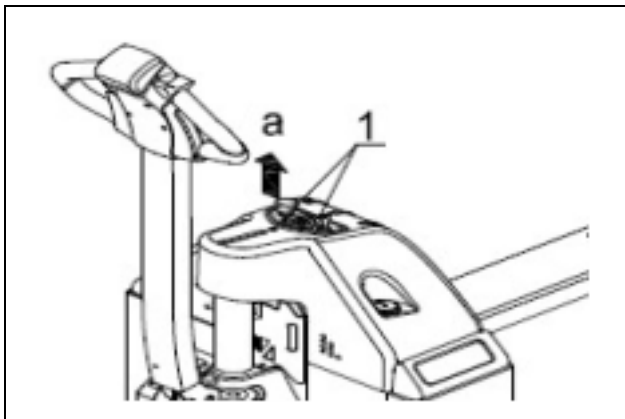

Figure 3-2 Cover Removal
- a. Remove two screws (1, Figure 3-2) and remove the upper compartment cover.
| FIG 3-2 INDEX NO. | LOCATION | METHOD OF APPLICATION | TYPE (Table 3-3) | APPLICATION OF LUBRICANT |